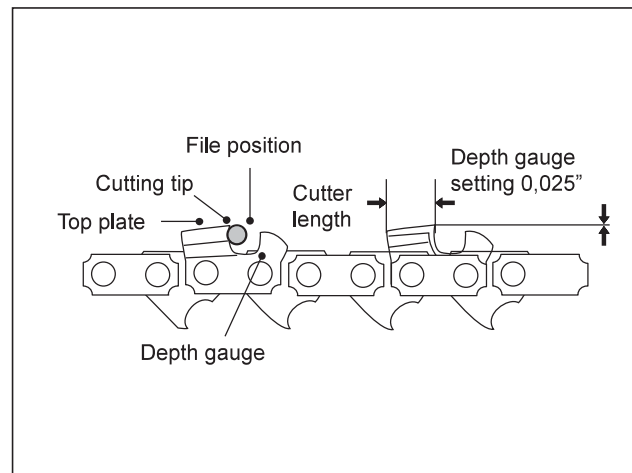

Fig. 37
8. Use a depth gauge measuring instrument to check the height of the depth gauge. Depth gauge measuring jigs are available from most reputable tool merchants (Fig.37).